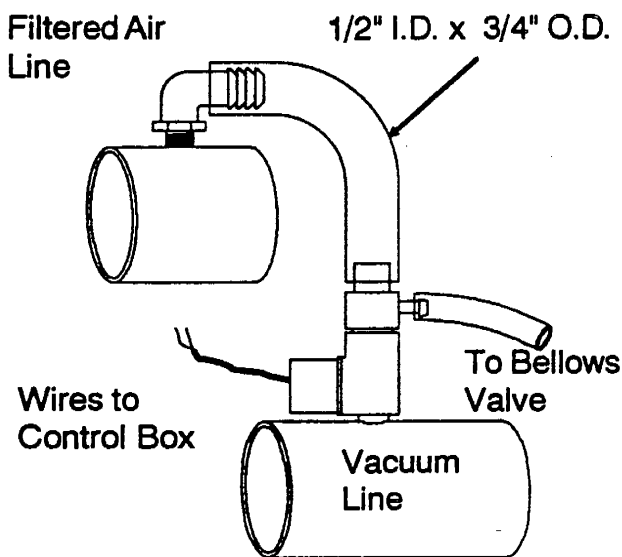

Figure 12
The bellow valve, should be installed on a minimum (2) inch or a (3) inch dia vacuum line as shown in Figure 12 with metal part up. It can sit either under the pit edge or above. Make sure the wire connector does not point up and the provided 3/16" I.D. hose reaches the meter top. This hose must not be longer than 100" but it can be shortened.